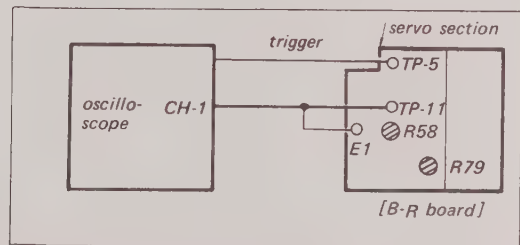

Fig. 7-12. Dropout compensator blanking pulse width adjustment test setup
1. Connect the scope probe to TP-11 on the B-R (Servo) board. See Fig. 7-12. Set sensitivity to 1 V/cm, time base at 500 μ sec/cm.
3. Adjust R79 at B-R board (See Fig. 7-12) so that the picture appears 1.8 to 2.2 seconds after completion of the threading cycle.